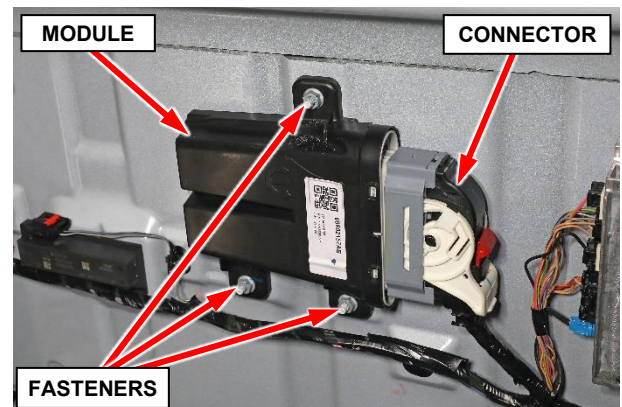

Figure 9 – Trailer Tow Module
10. Disconnect the wire harness connector from the trailer tow module (Figure 9).
11. Remove the fasteners from the trailer tow module (Figure 9).
12. Remove the trailer tow module from the vehicle (Figure 9).
15. Install the **NEW** trailer tow module to the vehicle and tighten the three fastener nuts securely (Figure 9).
16. Connect the wire harness connector to the trailer tow module (Figure 9).